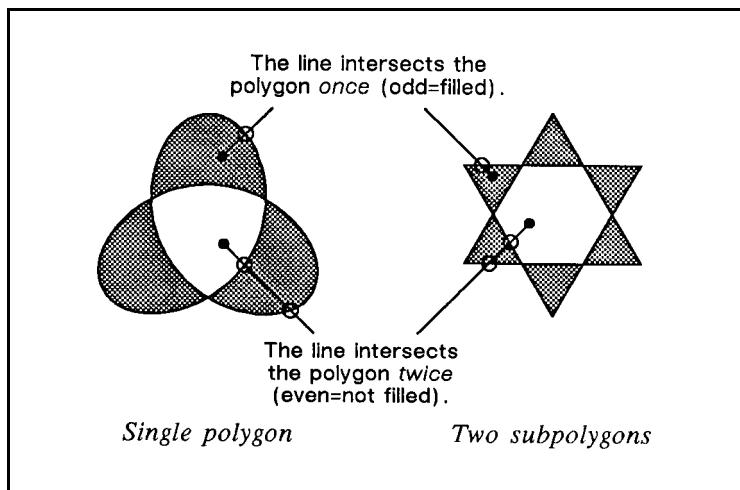

Figure 21-2. Filling Polygons: Even/Odd Fill Method
There is a simple way to determine which portions of a single polygon or series of subpolygons is filled when you send a Fill Polygon (FP) command using the default method 0, (fill using even/odd rule): Draw a straight line extending from any point within an enclosed area of the polygon to a point outside the polygon. FP fills the enclosed area in question only if the line you have drawn intersects the edges of the polygon an odd number of times. Figure 21-2 illustrates this ‘odd-even’ rule.